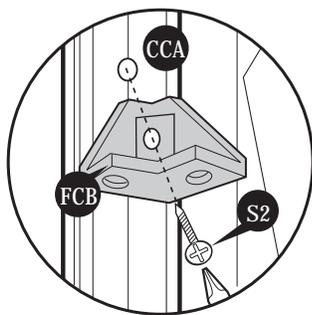
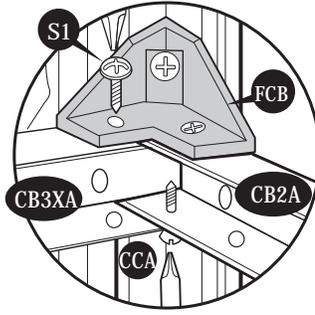

Fig.1: Use (S2) screws. Fix (FCB) fitting to (CCA). Leave it loose.
Fig.2: Use (S1) screws. Fix (CB3XA) to (FCB) and (CB2A).
**13.** Working from inside Continue connecting the 4 back panels (SP↑) and columns (CMA) in sequence along (B3RA) & (B3LA) base to corner column (CCA). Use (S1) screws to fix columns to base. Slide corner column (CCA) into side panel (SP↑) pushing the column into position. See (fig.1) and (fig.2).
**14.** Stabilize the side panels with center bands (CB3XA) assembly. Fix center band fitting (FCB) to corner column (CCA) with (S2) screws. See Fig. 1 Follow the Fig. 1, 2, 3, 4, 5 & 6.